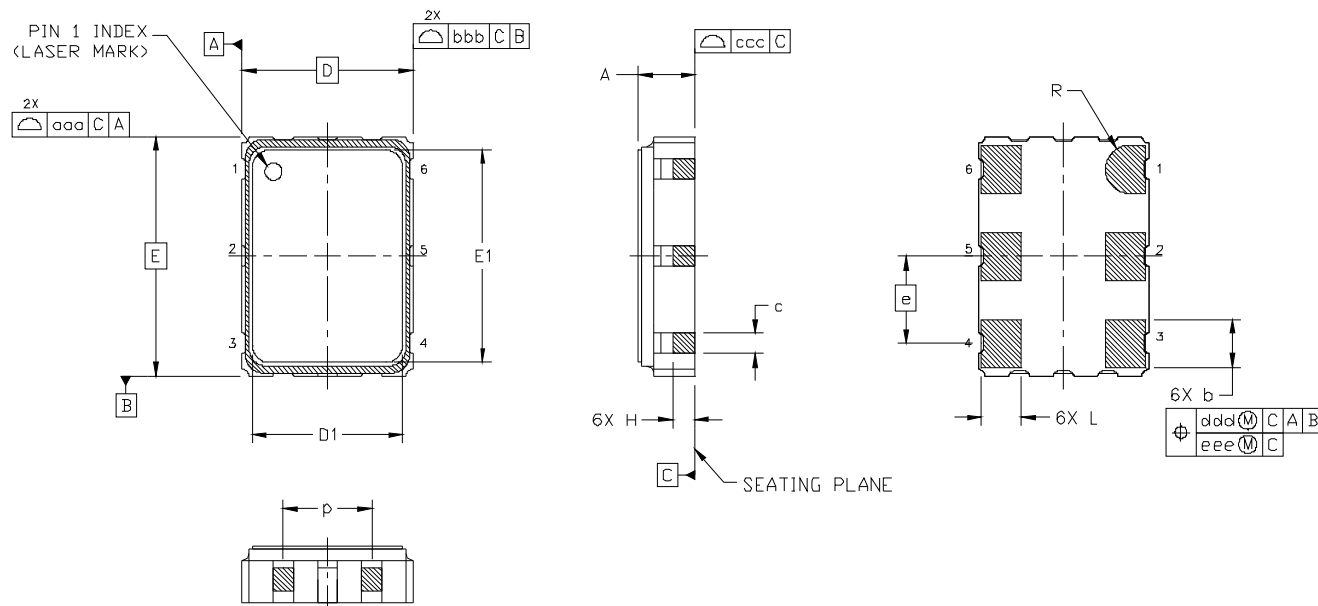

Figure 2. Si550 Outline Diagram
Figure 2 illustrates the package details for the Si550. Table 12 lists the values for the dimensions shown in the illustration.
- Added crystal impedance pin in Figure 2 on page 11 and Table 12 on page 11.